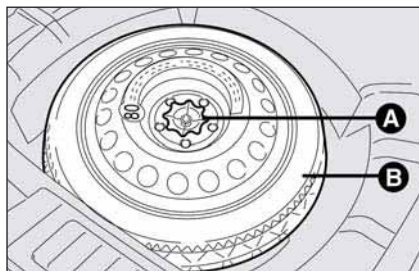

fig. 12
- ☐ Place the space-saver spare wheel **B-fig. 12** in the space provided for the purpose inside the boot and secure it with the clamping device **A-fig. 12**.